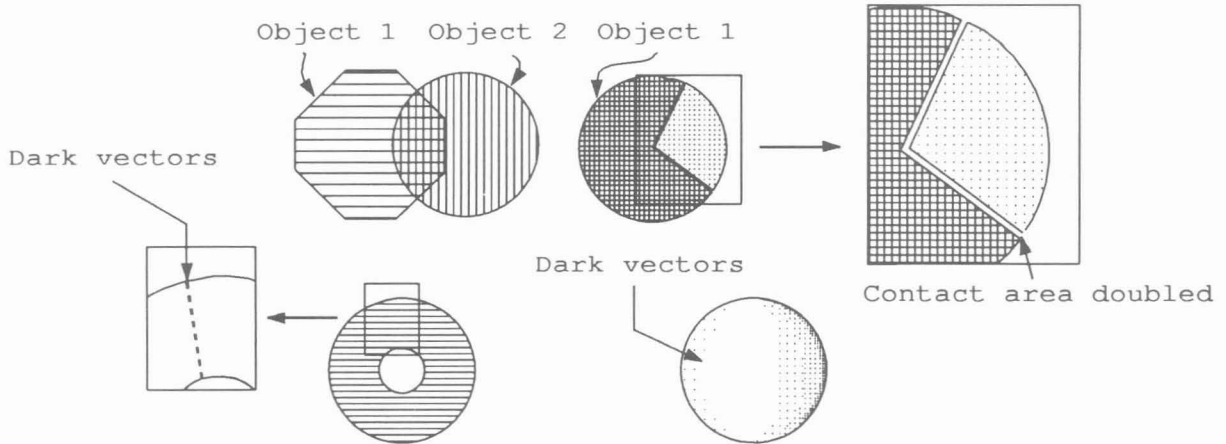

Figure 23. Examples of painted objects.
- 0 to 5:** Set line style, as in LINE command. Line style 0 appears dotted in DRAW mode, but is not drawn at all (dark vectors) when DRAW mode is not invoked. Thus, it is possible to define objects with invisible contour lines (Figure 23).
Circles and arcs are collections of uninterrupted vectors and as such can form objects which can be filled with the **P** function (Figure 23). Arcs can be completed by vectors to form closed objects by using **V** and **I** near the arc's counterclockwise end-point, as discussed under the **V** function.
Paint - Up to 60 OBJECTS (collections of contiguous vectors) can be painted (filled) with vertical (**V**, default), horizontal (**H**), cross-hatched (**C**) lines, or dotted patterns (**D**) (Figure 23). Filling density (0 to 9) is defined last. For terminals with this capability, replace-mode filling allows emptying the inside of an object before painting (which is nice for drawing imbedded objects). Similarly, an object can simply be emptied (density = 0). Painting of objects with dotted patterns can be performed with densities 2-9 only.
To use the **P** function properly, it is useful to understand how PLT fills objects on the screen. Remember that PLT objects are not related to geometric forms that appear on the screen. PLT has no way of knowing what is on the screen at any given time. Rather, PLT defines objects as **series of uninterrupted vectors whose extremities match EXACTLY**. The only way to produce such objects is through a continuous series of **V** instructions (see **V** above). First, PLT finds the nearest vector end-point to the position where **P** is typed. It then searches for the limits of the exactly-matched series which this vector belongs to. THAT becomes the object to be filled. Finally, it computes the periphery of that object in order to fill it. PLT does not consider vectors which are not strictly part of the object, no matter what they look like on the screen. Therefore, to fill two objects which share an edge, **BOTH OBJECTS MUST BE COMPLETE**, which implies doubling vectors along their common edge (Figure 23).